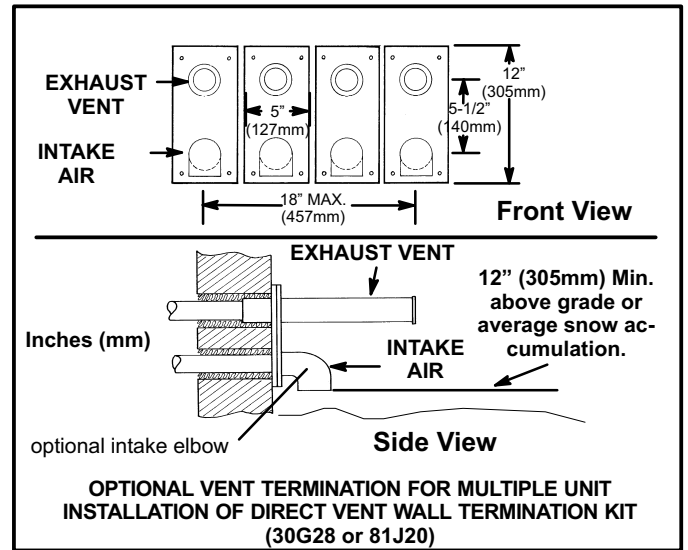

FIGURE 37
- A multiple furnace installation may use a group of up to four terminations assembled together horizontally, as shown in figure 37.